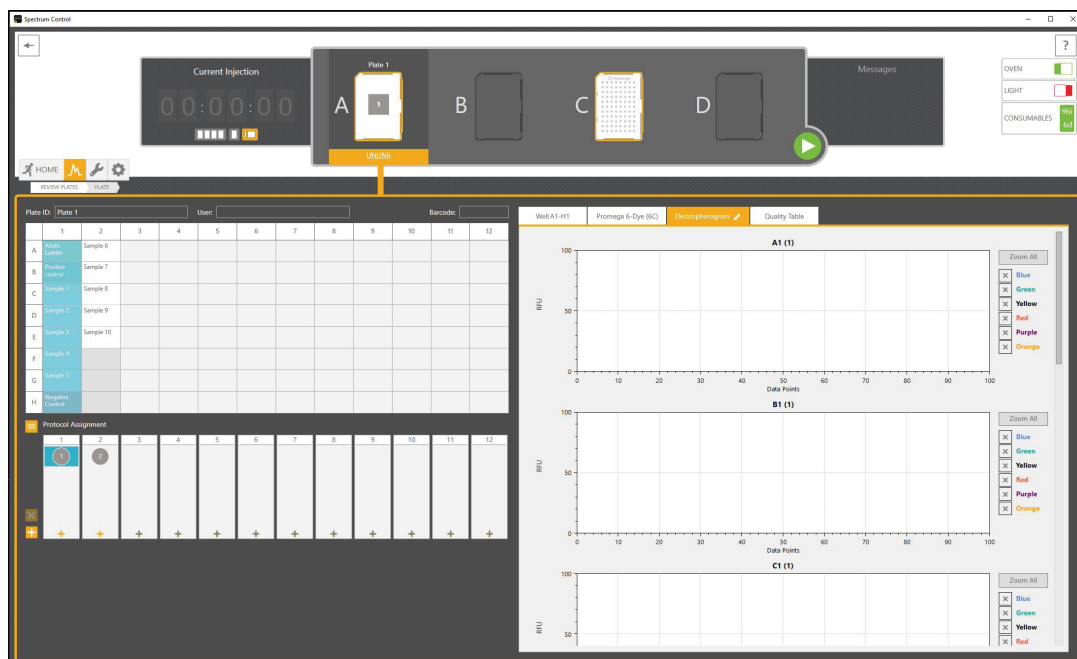

Figure 15. Linked plate in the Spectrum Control Software.
2. Open the draft plate record, then select **Link** in the Plate Position indicator under the position where the plate was placed. Once the plate is successfully linked, the text under the position will change status to “Unlink” and the Plate ID will appear above the position (Figure 15).